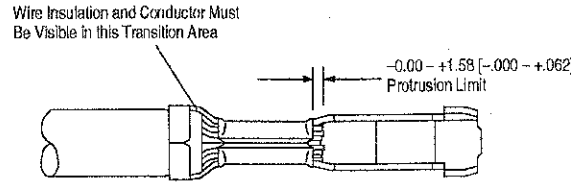

Figure 6
B. Strip length: Insulation shall be stripped as indicated in Figure 6.
- C. Wire barrel seam:** The wire barrel seam shall be completely closed with no portion of the conductors protruding from the seam. See Figure 6.
- E. Conductor location:** The conductor of the wire must be flush or within the protrusion limit specified from the front of the wire barrel. Both insulation and conductor should be visible in the transition area between the insulation barrel and wire barrel. No insulation should be in the wire barrel. See Figure 6.